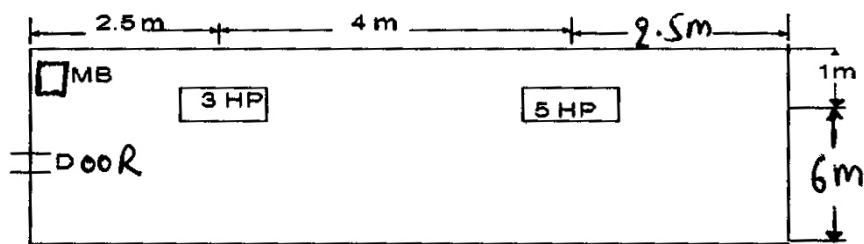

Fig. 2 : Plan of workshop
14. Two 3-phase, 400 V induction motor are installed in a workshop of plan show in Fig. 2. Make a neat single-line sketch of power wiring of the machines. Also prepare the list of materials required for the power wiring installation. Assume missing data, if any.